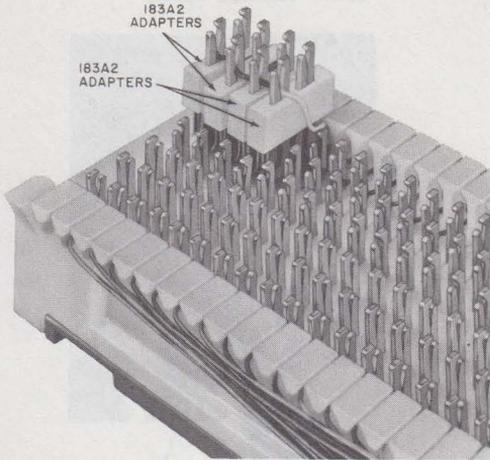

Fig. 12—Typical Installation of 183A2 Adapters on 66B-Type Connecting Block
4.06 No special tools are required to install or remove either adapter. Fig. 12 shows the 183A2 adapter installed. Install as follows: